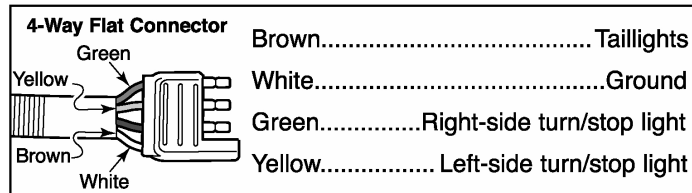

Fig 3
- Fit the swing arm yoke over the point of rotation on the hitch bar. **See Fig 2.** Insert two 3/4" flat washers between the yoke and the hitch bar. **This is important, as the washers are the bearing surfaces that the swing arm pivots on for smooth operation. See Fig 3.** Next, slide another 3/4" flat washer onto the 3/4" pivot bolt and push the bolt through the aligned yoke and hitch bar hole. Before threading on the 3/4" nylon lock nut, put another 3/4" flat washer on the pivot bolt (the washer should be between the yoke and the nut). **When finished you will have four washers in place on the pivot bolt; one under the head of the bolt, two between the yoke and the hitch bar and one between the nut and the yoke.** Tighten the nylon lock nut onto the pivot bolt until the swing arm swings freely, yet with light resistance. **The nut must be tightened snugly to the bottom of the yoke.**
- Consult your vehicle owner's manual to ensure that the terminals on the vehicle plug match the functions of those the StowAway2 (See Fig 3).